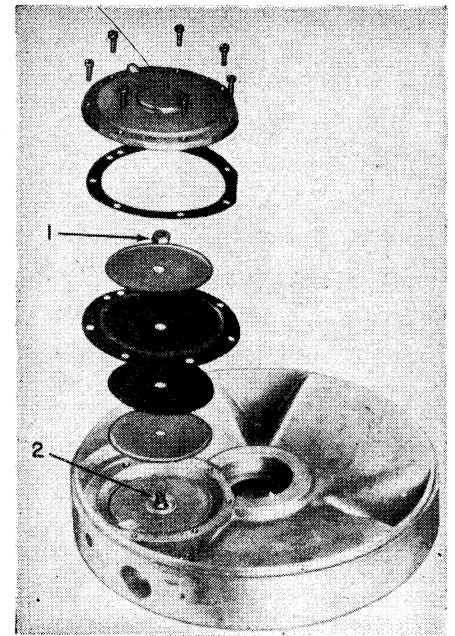

Fig. 71 Disassembly of fast application
Fig. 71. This operation and the one shown in Fig. 72 apply only to Hydrovacs having the fast application valve in the center plate. Remove fast application valve cover. Hold valve shaft (2) with screw driver in slot provided when loosening nut (1) and disassemble diaphragm parts.